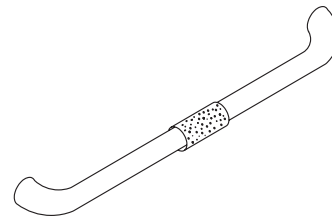

Figure 7
For your added comfort a foam grip (4) has been provided. Figure 7.